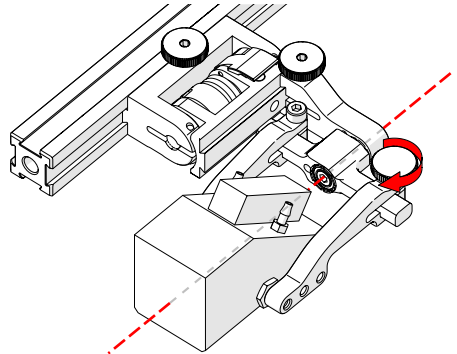

Fig. 136 - Pinch wedge with arm
9. Tighten probe holder arm adjustment knob (Fig. 136).